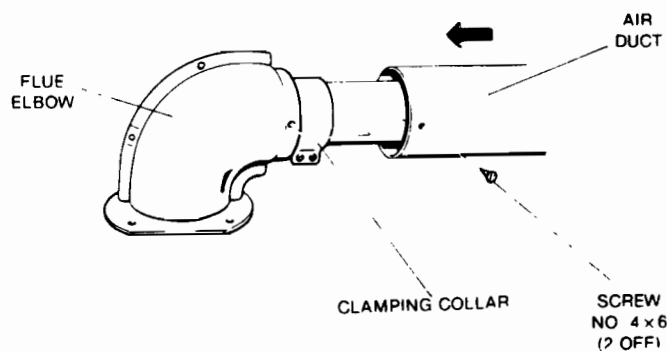

FIG. 19
NOTE: THE OUTER DUCTING IS PRE-DRILLED AT ONE END, ALWAYS MARK AND CUT AT THE PLAIN END (see Fig. 19)
- Select the air duct, and slide over the flue duct, (the pre-drilled end to engage on-to the elbow), then push onto the elbow spigot. Drill two 2mm dia holes through the pre-drilled air duct into the elbow and secure with the screws provided (see Fig. 19).